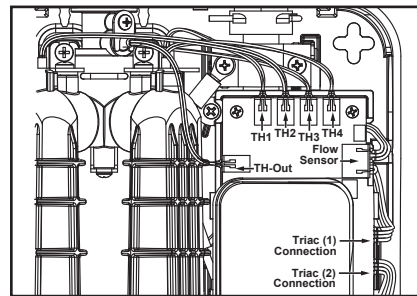

Figure 34 - Sensors control board terminal locations.
- 3 With the front cover removed, take a moment to record or photograph how the sensors and triac(s) are installed and which control board terminals the wire harnesses are plugged into. See Figure 34.
Properly reconnect the sensor and triac(s) to the control board, making sure the sensor, triacs, and wire harness connections are connected to the proper control board terminals. See Figures 34 and 35, page 23.